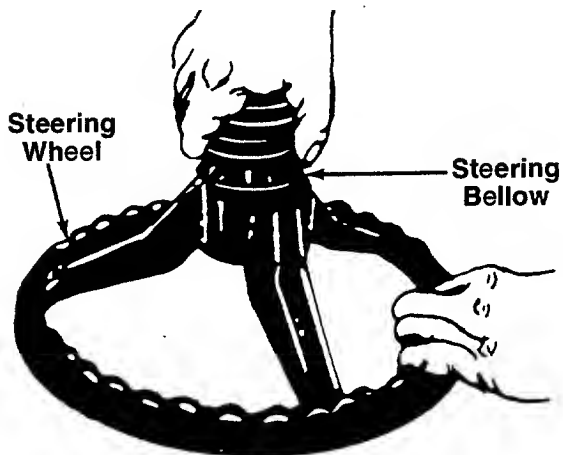

FIGURE 8.
6. Attach one end of steering bellow to the steering wheel as shown in figure 8.